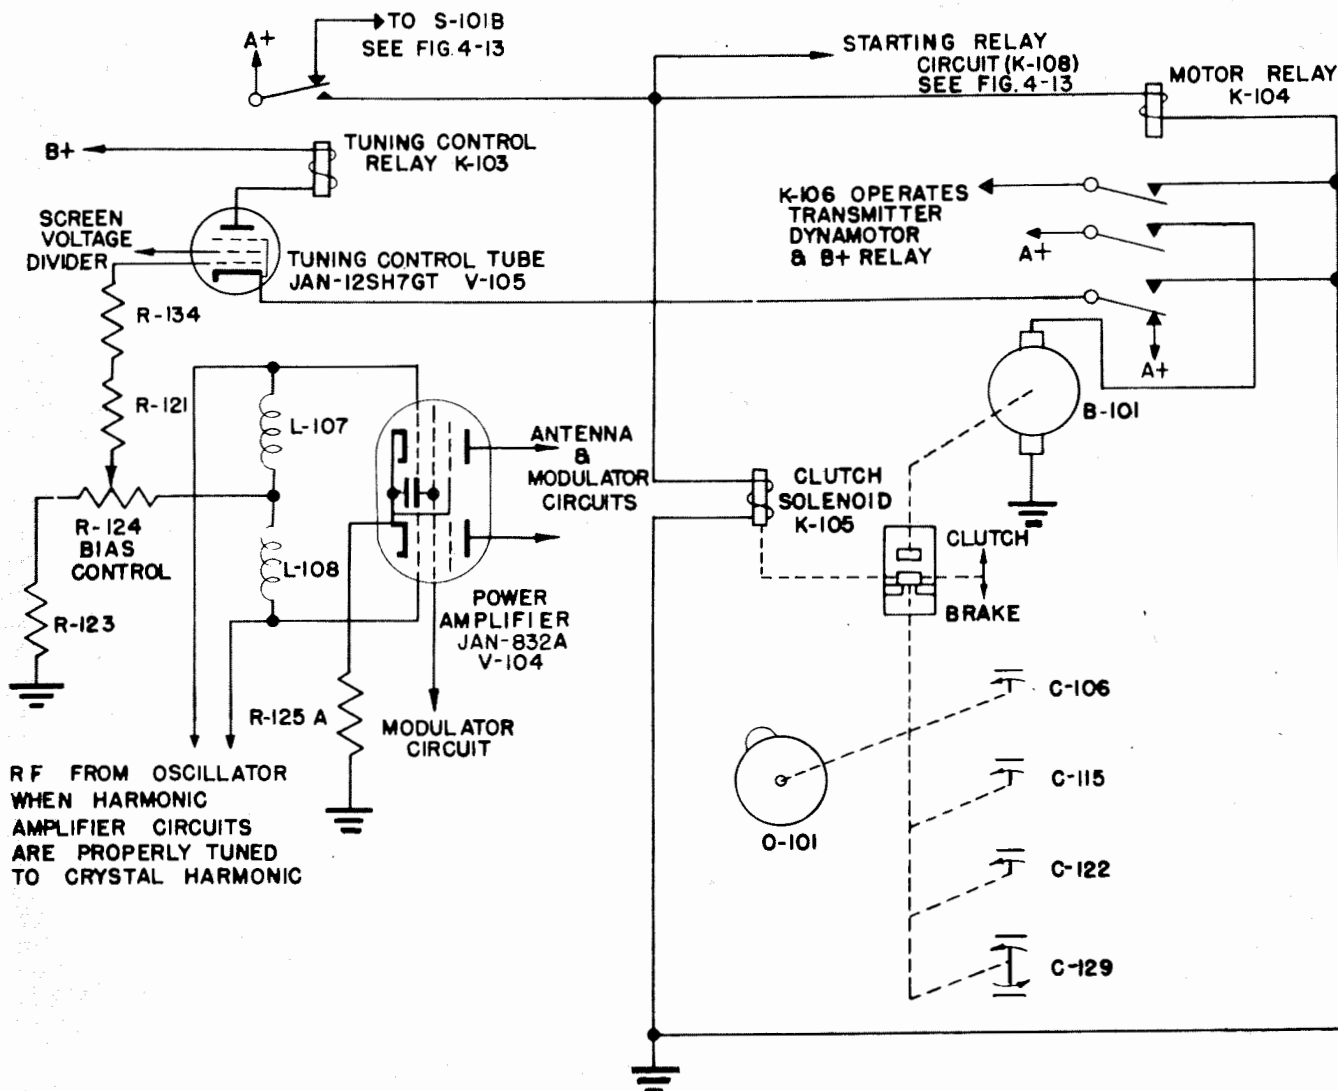

Figure 4-12. Radio Transmitter T-67/ARC-3 or T-312/ARC-36 Without Modification M-3—Basic Tuning Control Circuit
(a) The variable capacitors C-106, C-115, C-122, and C-129 and cam O-101 are driven through the clutch-brake mechanism by motor B-101. (See fig. 4-12.) Operation of the motor is controlled by a pair of contacts on motor relay K-104, which also contains other contacts necessary to the operation of the circuit.
(d) The basic operation of the tuning control circuit (see fig. 4-12) is as follows:
2. During the warm-up period locking switch S-101B is shorted by a back contact of sensitive relay K-103. (See fig. 4-12 and 4-13.) This prevents the starting relays from being released until the control tube has warmed up sufficiently to operate the sensitive relay.